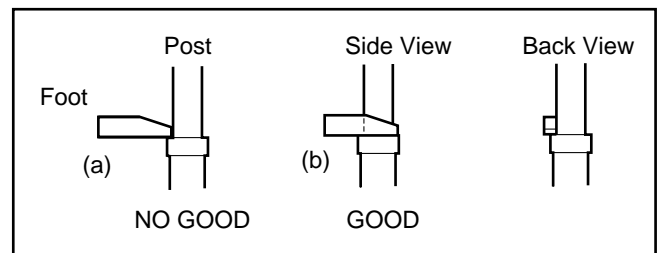

Fig. M11-3
4. Set the fixture to zero ("0") and slowly raise the post until it just touches the foot. When the foot touches the post, it should fit as shown in Fig. M11-3 (b).